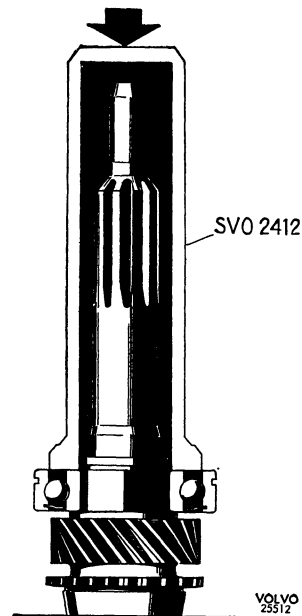

Fig. 4-22. Fitting ball bearing on input shaft
4. Press the bearing onto the input shaft with the help of drift SVO 2412, see Fig. 4-22. Select a circlip of suitable thickness and fit it. Place the 14 bearing rollers for the mainshaft in position in the input shaft. Use grease to hold the rollers in place. Press the input shaft into position in the housing. Press the oil seal into the cover with drift SVO 2867.